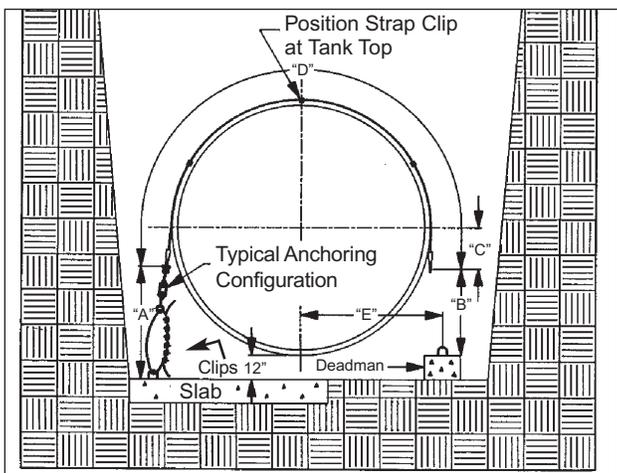

FIGURE 7-1
7.2.2. Placement of Xerxes prefabricated deadmen is the same as standard deadmen. (See FIGURE 7-1.)
7.3.5. Refer to TABLE 7-2 and FIGURE 7-1 for anchor-point dimensions.
7.3.8. When using a concrete base slab, allow sufficient depth in the excavation for 12 inches of bedding material below the tank. (See FIGURE 7-1.)
7.4.4. Data for hold-down straps are given in TABLE 7-2 and FIGURE 7-1.
7.5.4. Locate the anchor points as shown in TABLE 7-2 and FIGURE 7-1. Refer to dimension "E." Align all anchor points with the marked arrowhead symbols \blacktriangleleft on the tanks, within a tolerance of ± 1 inch.